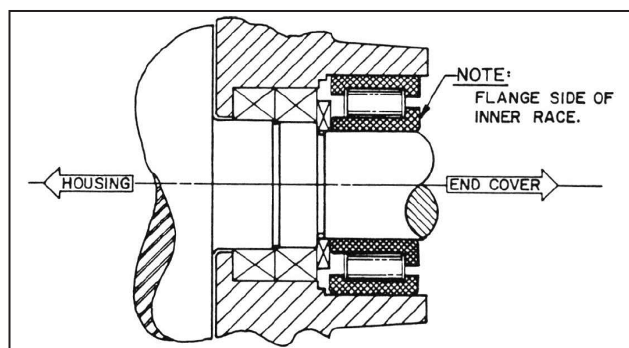

Figure 19 - Roller Bearing Flange
12. Install seal mating rings as was done in Step 4. Install one bearing spacer (57) on each shaft. Lubricate shafts and install roller bearing with inner race flange outward. See Figure 19. Install second bearing spacer (57) on each shaft. Install oil retainer rings (14) and cap screws (30). Install roll pin (68) washers (25), oil slinger (20) (on drive rotor), lock tabs (59) and bolts (29). Bend over tabs.
13. Install mounting feet (304) with machined surface against housing and secure with lockwashers (80) and cap screws (307). Install lifting lugs (195) with cap screws (196).